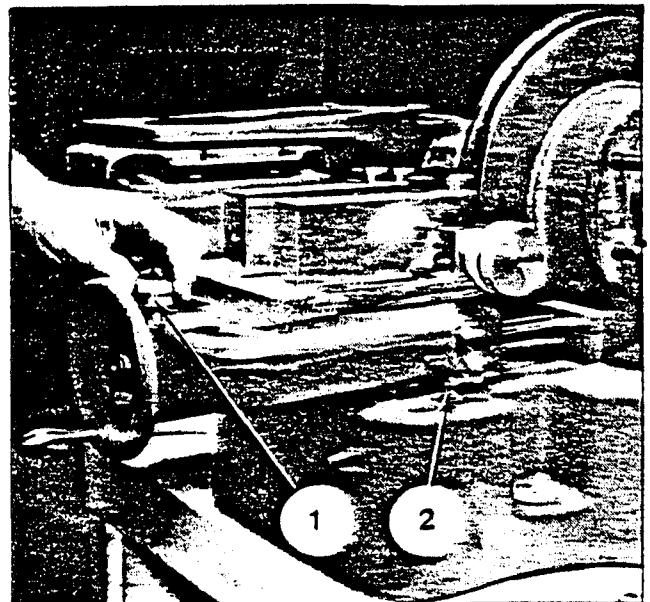

Figure 22. Cross Feed Shut Off
1. To remove rotor and arbor assembly from lathe, disengage cross slide feed by loosening lock screw, Figure 22.